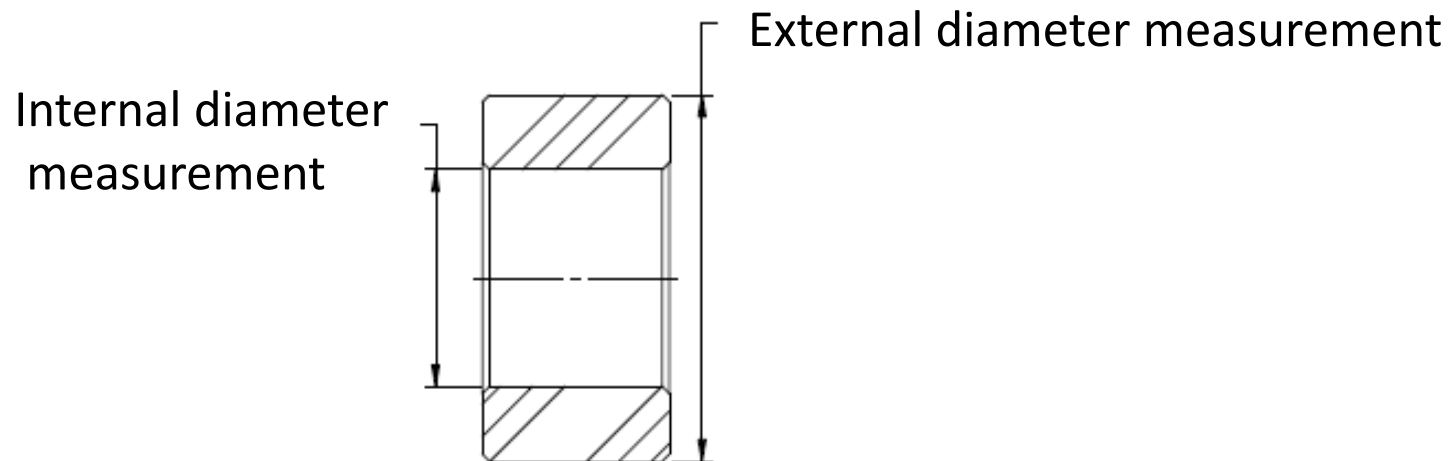

Figure 27
- The external diameter must be larger than 24 mm (see figure 27).
- The internal diameter must be smaller than 15.5 mm (see figure 27).